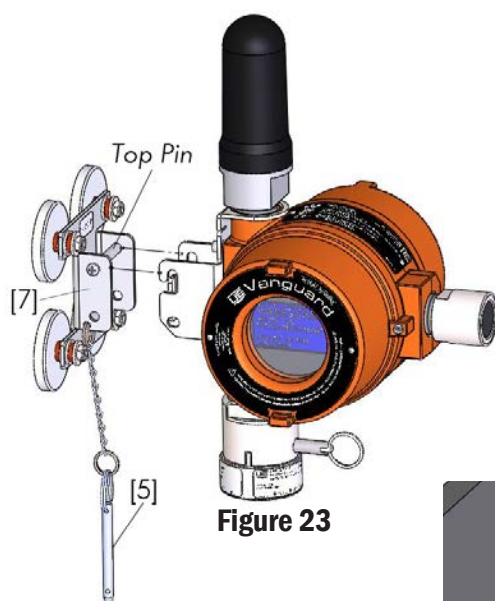

Figure 23
1. Remove hardware from packaging (see Figure 23).